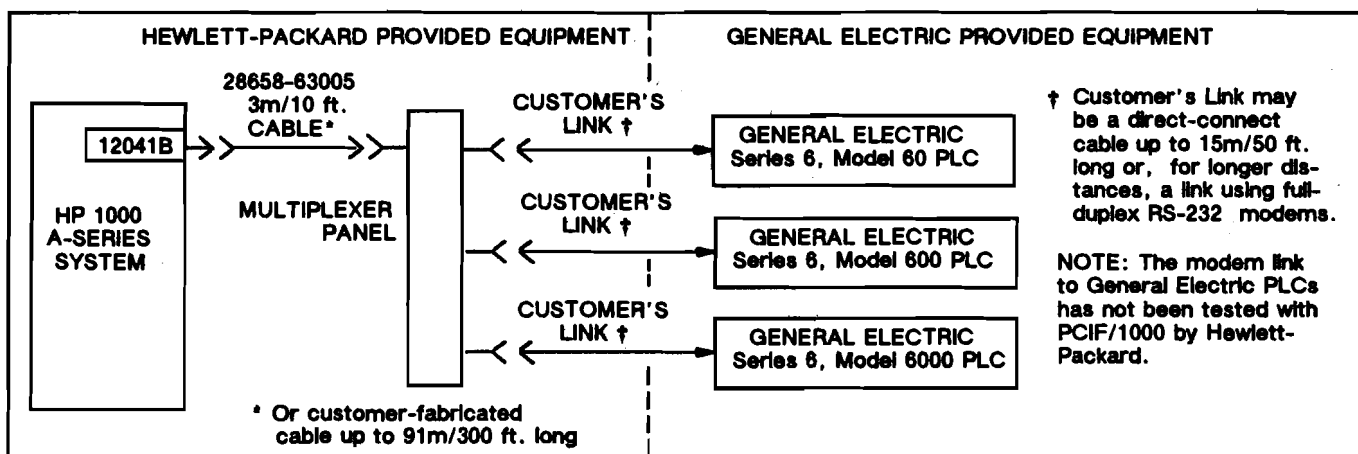

Figure 2-8. Connection of General Electric PLCs to HP 1000 A-Series System
**General Electric:** Series Six, Model 60, Model 600, and Model 6000 PLCs connected as shown in Figure 2-8 when the 94206A General Electric PLC Device Handler is configured with the HP 94200B PCIF/1000 Configurator/Monitor.